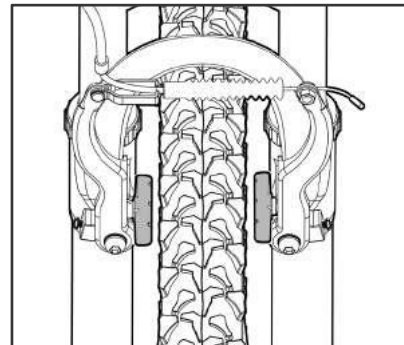
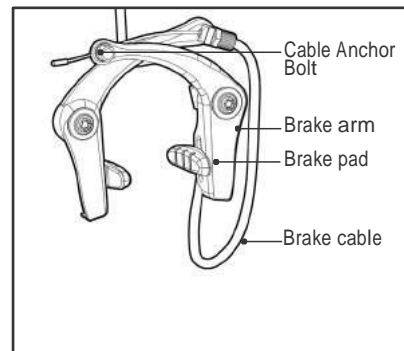

Figure 63
Figure 64
- Ensure that the wheel is properly centered within the dropouts and is not out of true (see Figure 63).
- Using (C) a 4, 5, or 6 mm Allen wrench adjust the brake pad bolts so the brake pads are in line with the curve of the wheel, striking the upper edge of the braking surface, but not the tire. Tighten the brake pad bolts once they are positioned correctly.
- Once the brake pads are properly positioned, loosen the cable anchor nut on the Brake Arm (see Figure 64). Firmly squeeze the brake pads against the rim of the tire, pull the cable taut, and re-tighten the cable anchor nut using either (C) a 4, 5, or 6 mm Allen Wrench or a pair of (E) Standard Slip Joint Pliers.)
- If your brake is not centered, or the pads are not contacting the rim at the same time, loosen the mounting nut holding the brake to the fork (front) or the frame (rear) (see Figure 64). Squeeze the brake lever firmly, and tighten the brake nut while continuing to squeeze the brake lever. Squeeze the brake lever several times to check to see if the brakes are centered (see Figure 63).